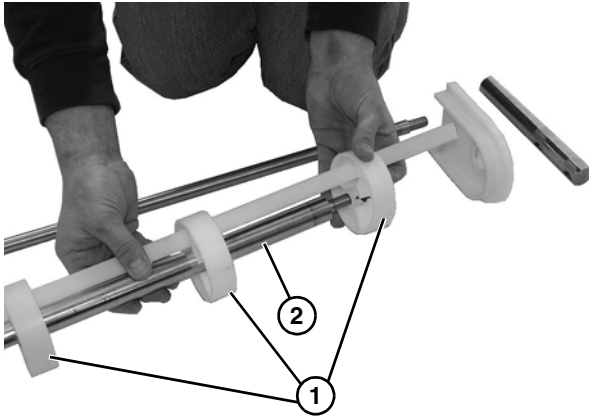

Figure 66
- Slide all the idler pucks (Figure 66, item 1) along with alignment bar onto idler shaft (Figure 66, item 2).